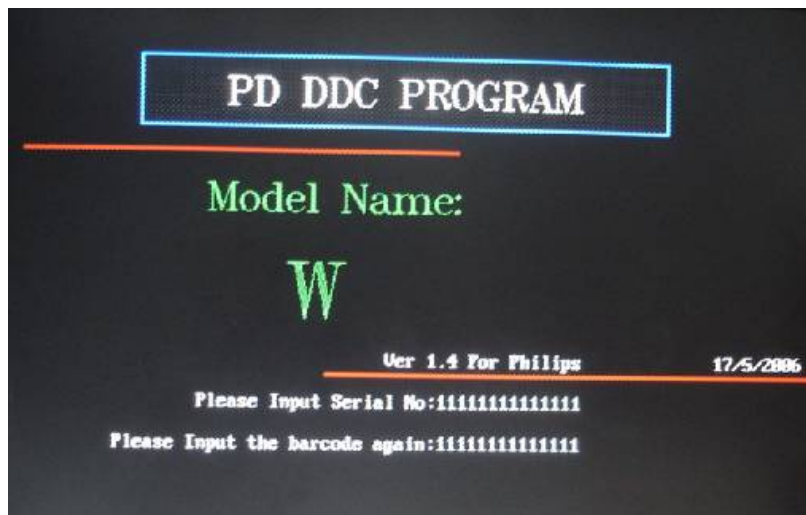

Fig 4
b. Enter and press "F3" key to input Serial No. again as shown Fig 4. Enter
The Serial No. length is "14" as shown Fig 4.